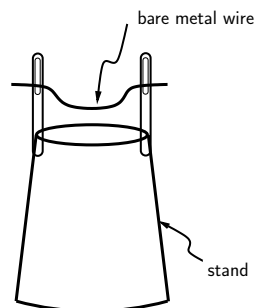

Figure 12.1: Bare metal wire should swing back and forth freely in stand.
2. From the front of the room, obtain a bare metal wire approximately 6 inches long. Verify that this bare metal wire by itself is not magnetic. Use the template at your station and the board with pins to bend the bare metal wire into the shape shown in Figure 12.1. Next, place the wire into one of your stands as shown in Figure 12.1. The wire should swing back and forth freely; if it doesn't, gently bend it so that it does.